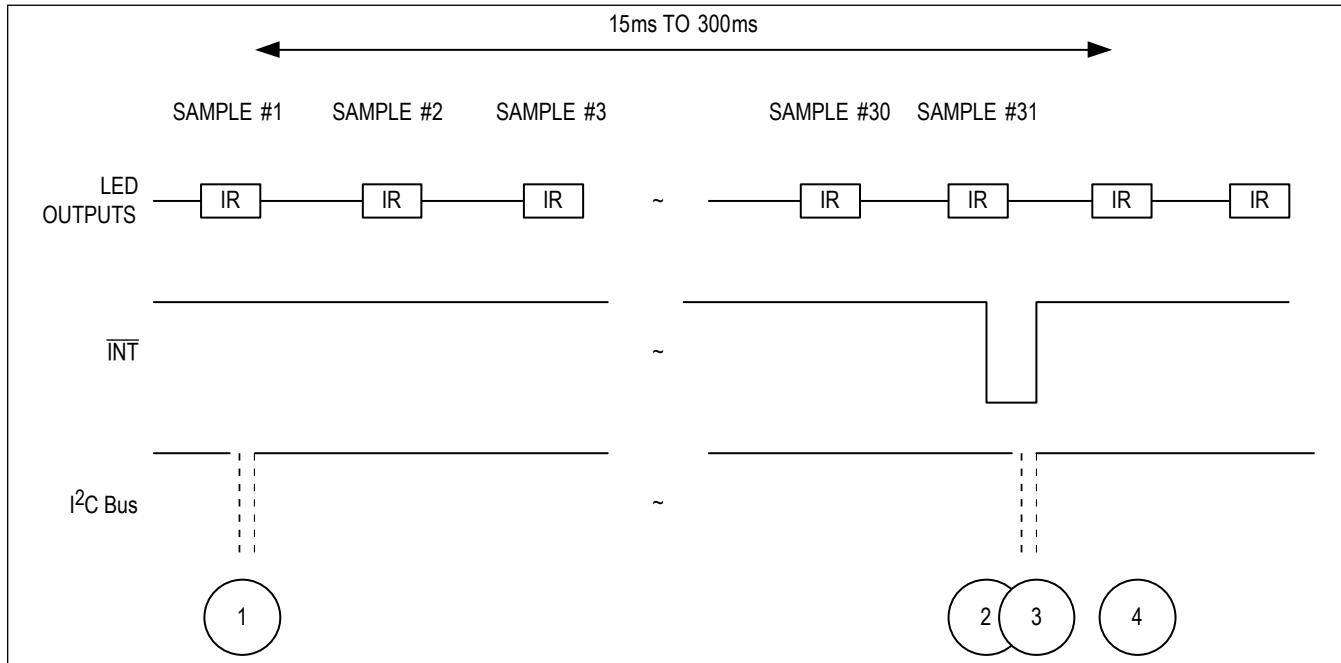

Figure 5. Timing for Data Acquisition and Communication When in HR Mode
The internal FIFO stores up to 32 samples, so that the system processor does not need to read the data after every sample. In HR mode (Figure 5), unlike in SpO2 mode, temperature information is not necessary to interpret the data. The user can select either the Red, IR, or Green LED channel for heart rate.
**Table 13. Events Sequence for Figure 5 in HR Mode**